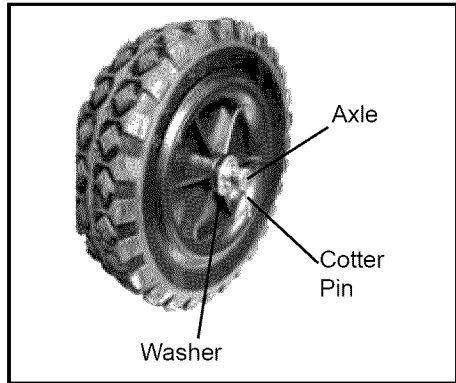

Fig 2.
4. Secure each wheel with a flat washer and cotter pin (Fig 2).